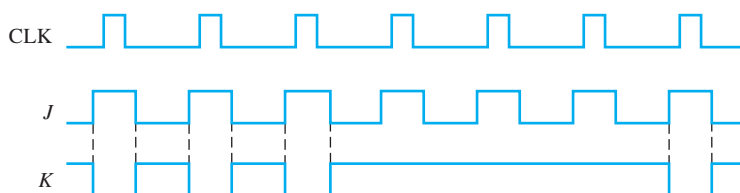

FIGURE 7-84
15. For a negative edge-triggered J-K flip-flop with the inputs in Figure 7-84, develop the Q output waveform relative to the clock. Assume that Q is initially LOW.